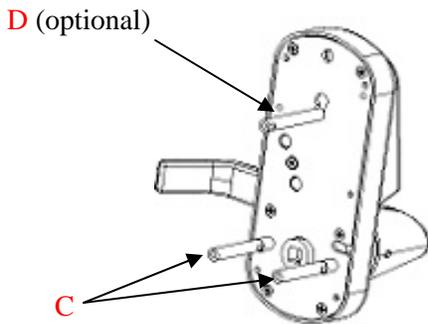

Fig 3
Screw in and tighten the two fastener extensions (C) into the front lock fastener posts, located on both side of the center hub. Attach and tighten the upper fastener extension (D) (Fig 3) Note: The upper fastener extension (D) is optional.